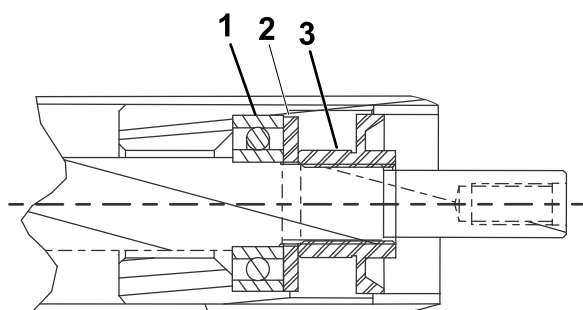

Figure 1
- Install a new bearing, the black washer, and the nut removed in step 2 onto each end of the roller (Figure 1).
- Tighten the nuts until the bearings are seated on each end of the roller (Figure 1).
- Remove the nut and black washer from each end of roller (Figure 1).